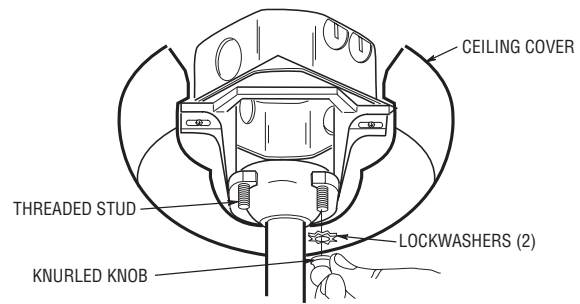

Figure 12
5. Lift the ceiling cover up to the threaded studs and turn until studs protrude through the holes in the ceiling cover (Figure 12).
6. Secure the ceiling cover in place by sliding lockwashers over the threaded studs and installing the two knurled knobs (supplied). (Figure 12.) Tighten the knurled knobs securely until the ceiling cover fits snugly against the ceiling and the hole in the ceiling cover is clear of the downrod.